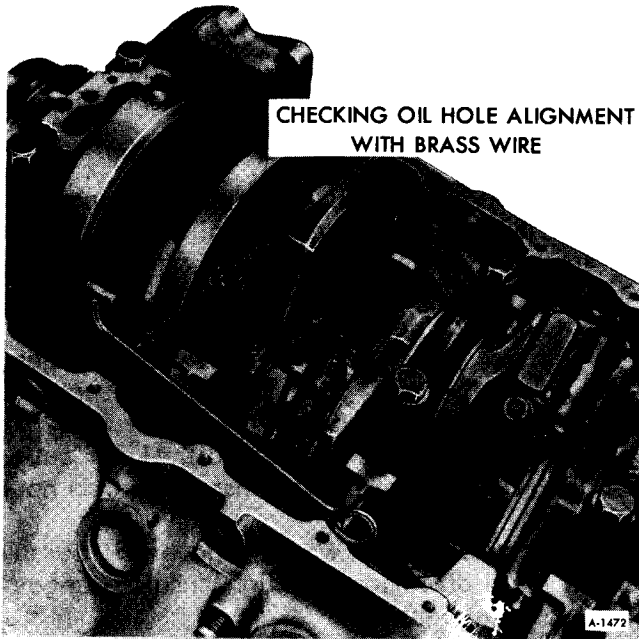

Figure 75—Checking Oil Hole Alignment
2. Drive No. 5 camshaft bearing into place and check oil hole alignment as shown in figure 75.